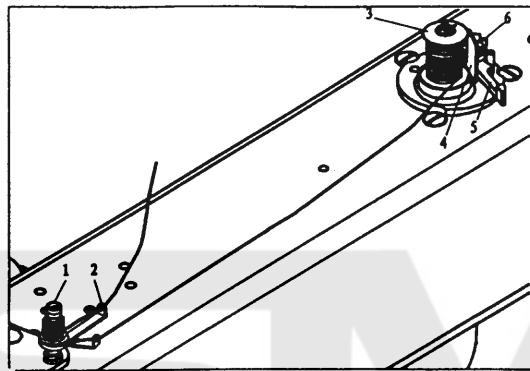

Fig.3
5..WINDING OF BOBBIN THREAD (Fig.3)
6. ADJUSTMENT OF THE BOBBIN WINDER (Fig.3)